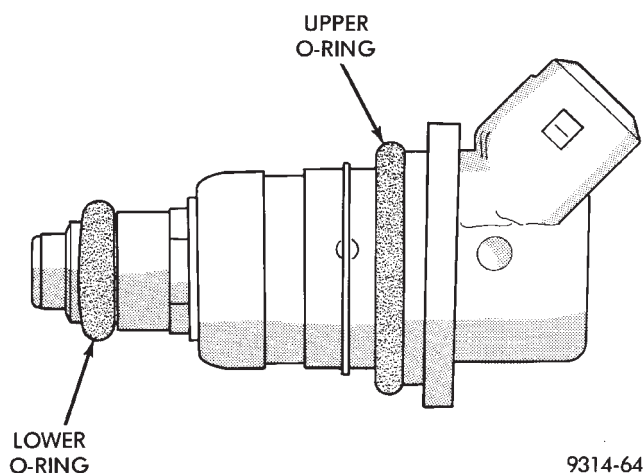

Fig. 33 Fuel Injector O-rings—3.5L Engine
- (13) Ensure the upper and lower o-rings were removed with the injector. If not, remove them from the injector well in fuel rail (Fig. 33).